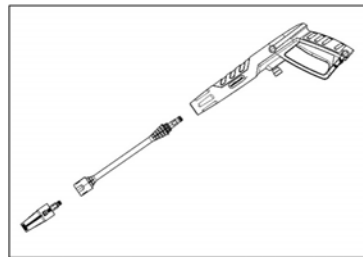

Fig.2
- Fit the spray lance into the high-pressure gun and rotate it until the two parts are completely locked (Fig.2)
- Push the desired nozzle onto the quick connect collar of the spray lance until it clicks into place (Fig.2)